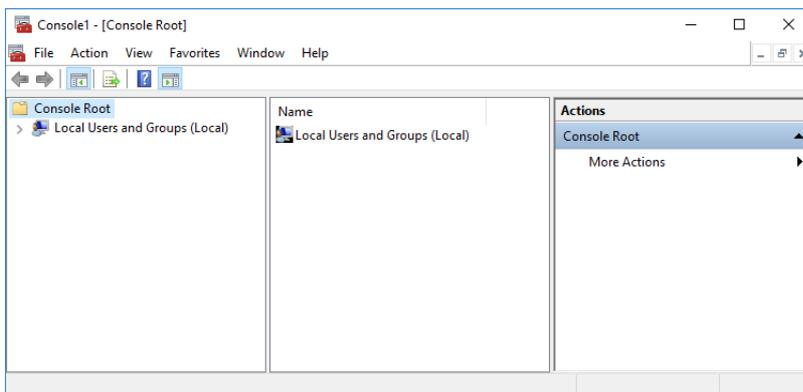

Figure 2-5. Console with Local Users and Groups
- d. Click **OK** to close the **Add or Remove Snap-ins** dialog. The entry **Local Users and Groups (Local)** is shown, see Figure 2-5.